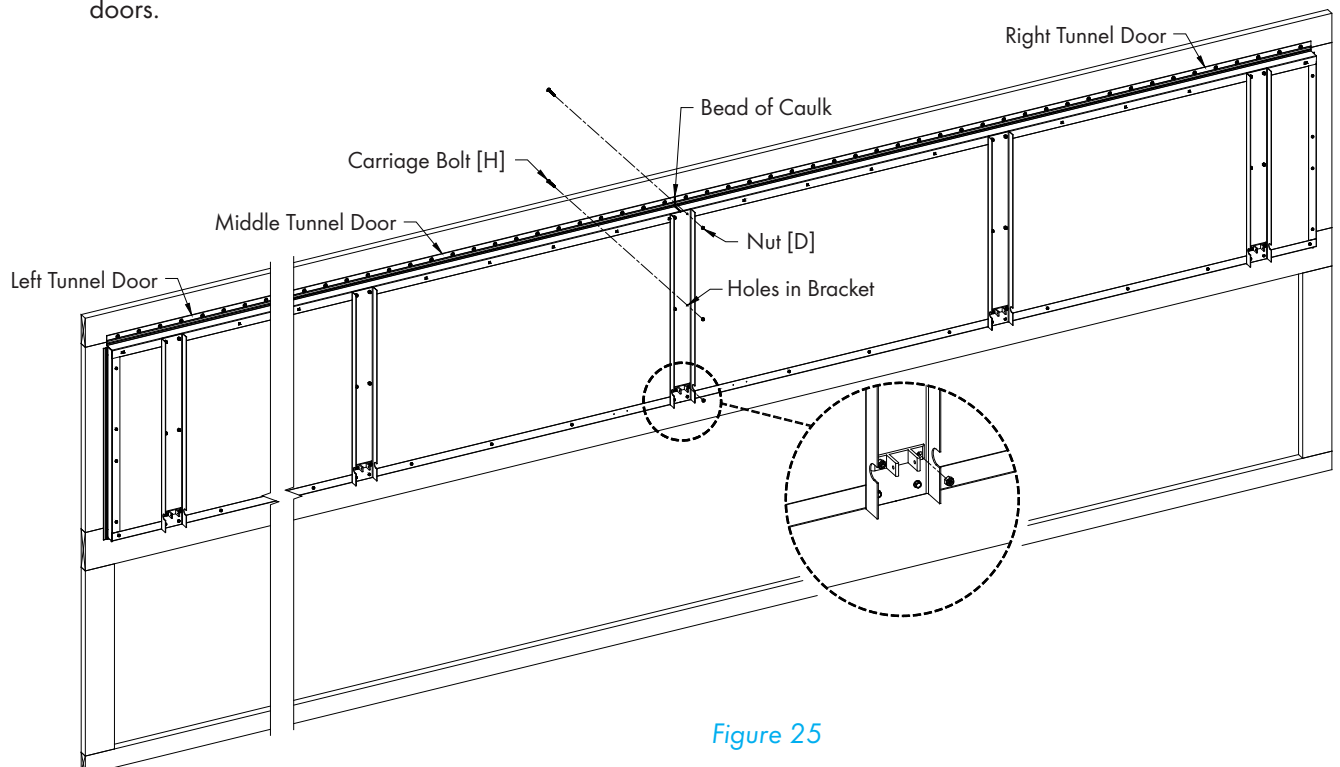

Figure 25
Secure Middle and Right Doors together by inserting (2) Carriage Bolts [H] through the (2) upper Holes and securing with Nuts [D]. Another Carriage Bolt [H] goes through the Pivoting Connector and secures with Nut [D]. See Figure 25. Apply a bead of caulk to the joint between doors at the hinge and the top of the doors.